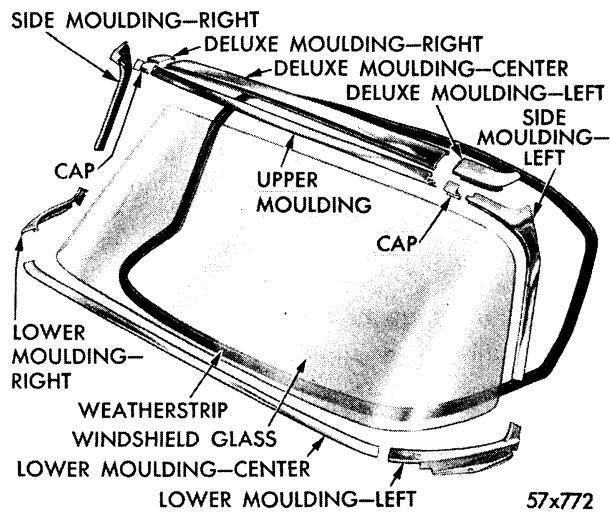

Fig. 62—Windshield and Moulding Assembly (Chrysler Models)
26. REMOVAL AND INSTALLATION OF WINDSHIELD GLASS (Refer to Figs. 62 and 63)